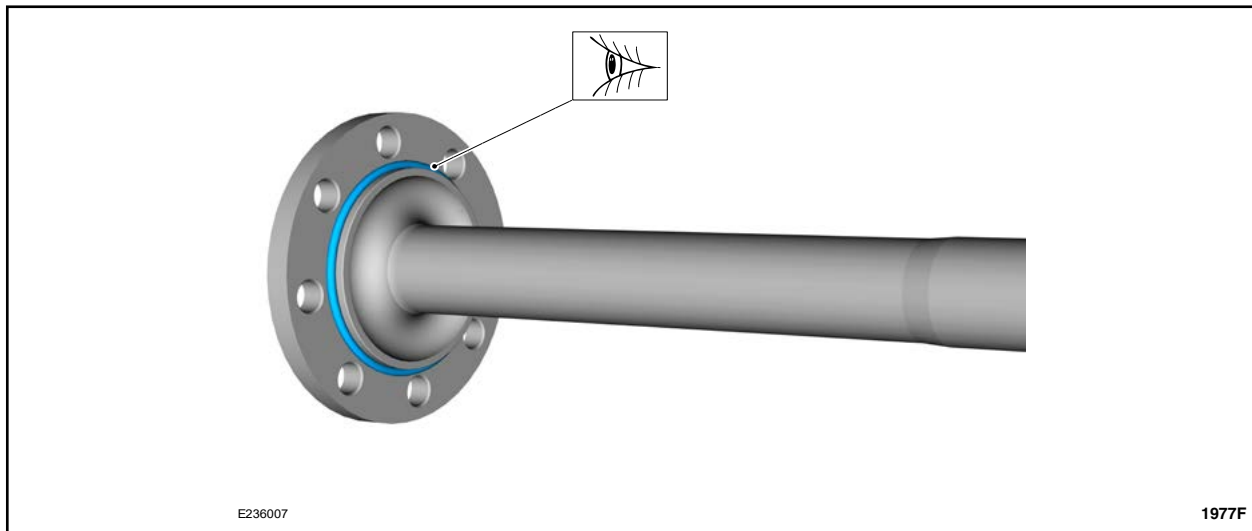

FIGURE 5
7. Install a *new* O-ring on the *new* axle shaft. See Figure 5.